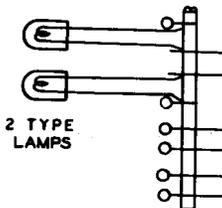

Fig. 15—240K Plug
2.15 **240K:** The 240K plug (Fig. 15) is equipped with a socket on each side for the mounting of a 2-type lamp. The 240K plug is used with the P4K cord in connection with the 447A and 448A jacks in intertoll dialing systems and replaces the D-157338 plug.